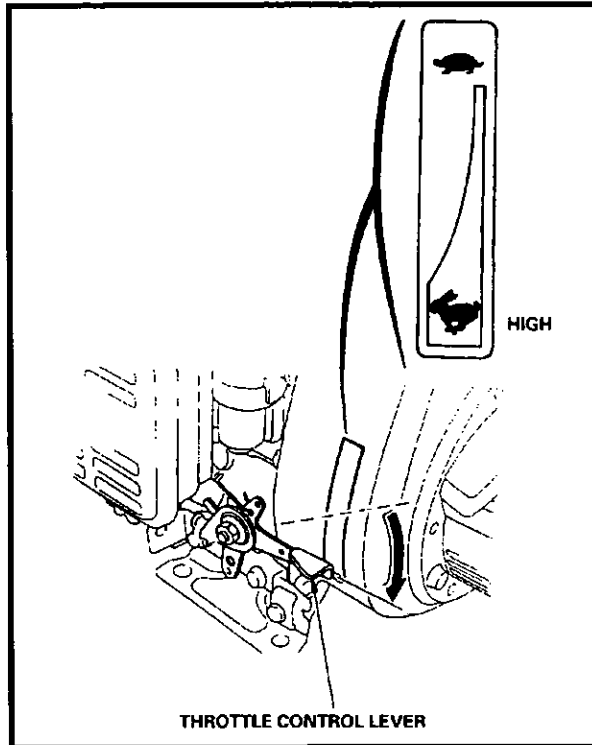

Figure 5-7 Throttle Control Lever (Engine Speed)
3. Position the Throttle Lever at the low Idle speed position = , Refer Figure 5-7.